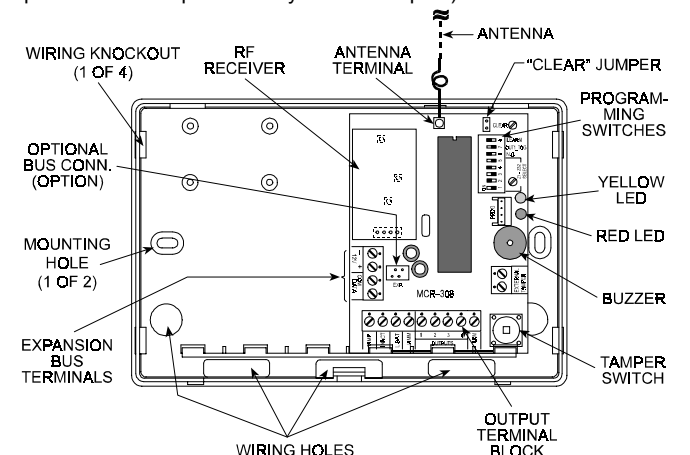

Figure 3. MCR-308 with Cover Removed
1.5 Construction Details (Figure 3)
- B. The semi-rigid antenna supplied with the MCR-308 is taped to the inner part of the cover. Detach the antenna from its storage position, insert its straight tip into the antenna terminal and **tighten the screw well**. See Figure 3 for antenna terminal location.